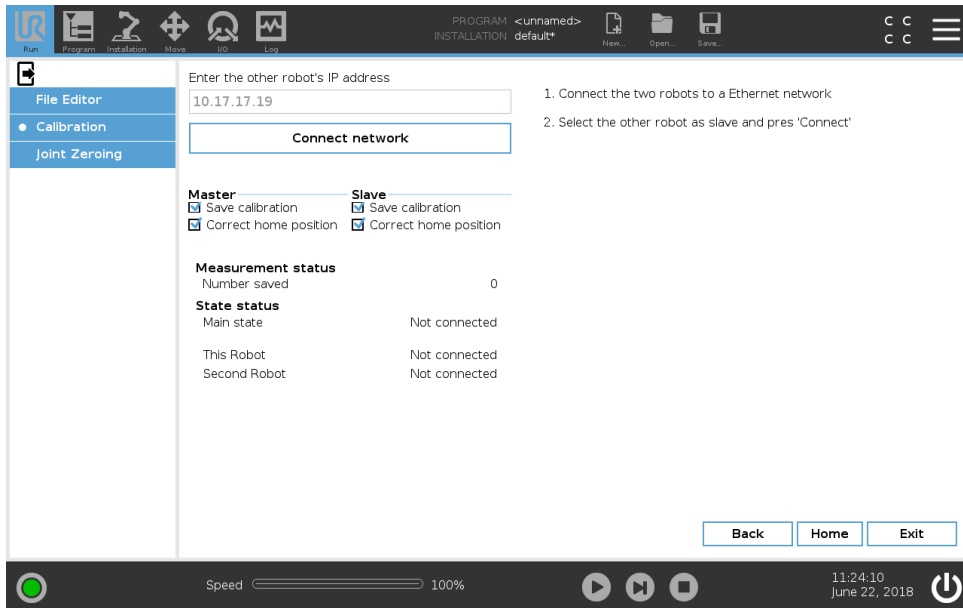

Figure 2.13: Manual enter IP address
- (17) In Expert Mode, once Calibration is selected, tap **Manual** to access the screen displayed in Figure 2.13.
- (18) Tap the **IP address or host name** text box and enter the IP number or host name of the Slave robot.
- (19) Tap **Connect network** to connect.